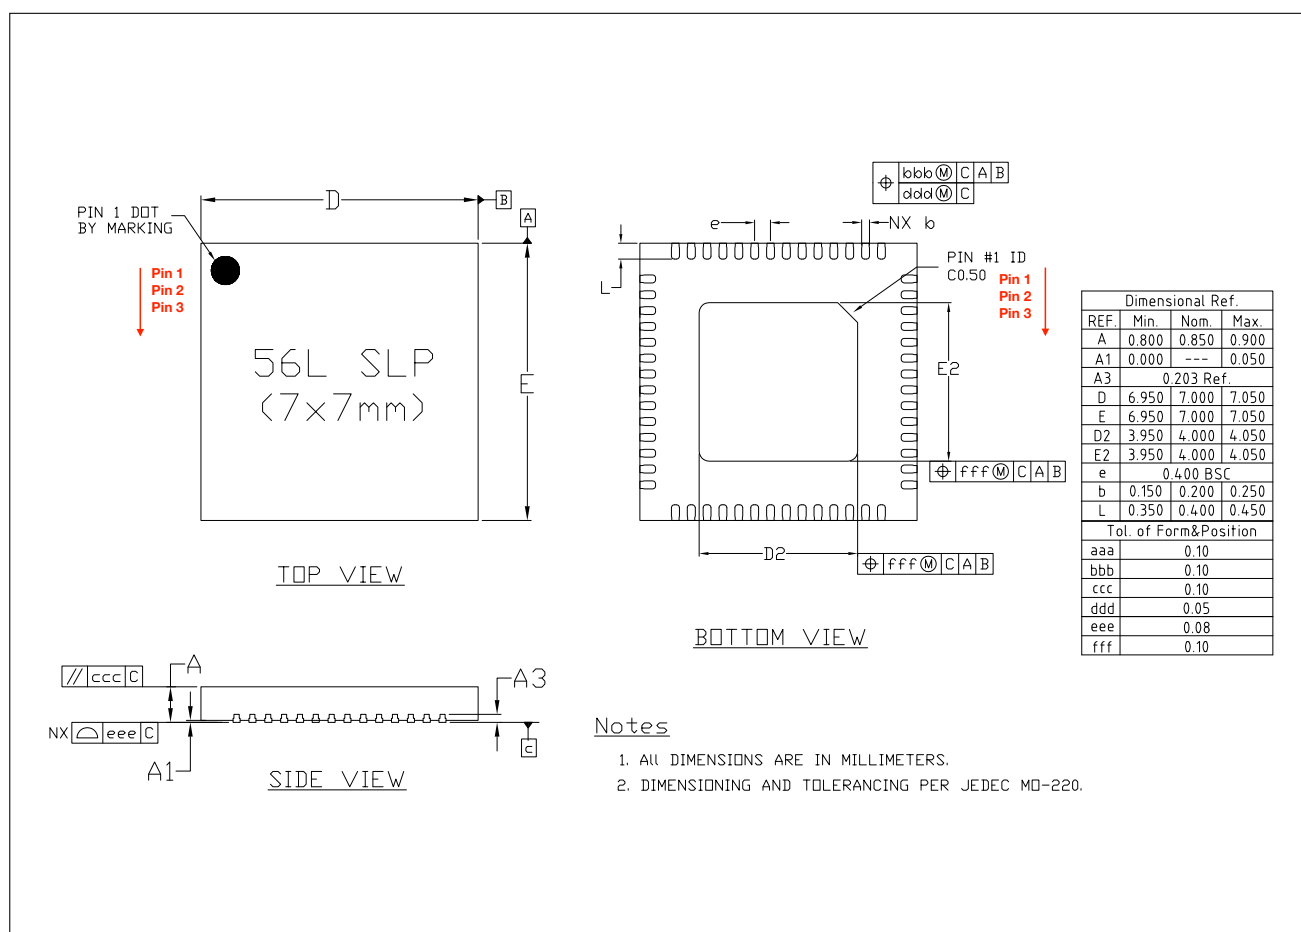
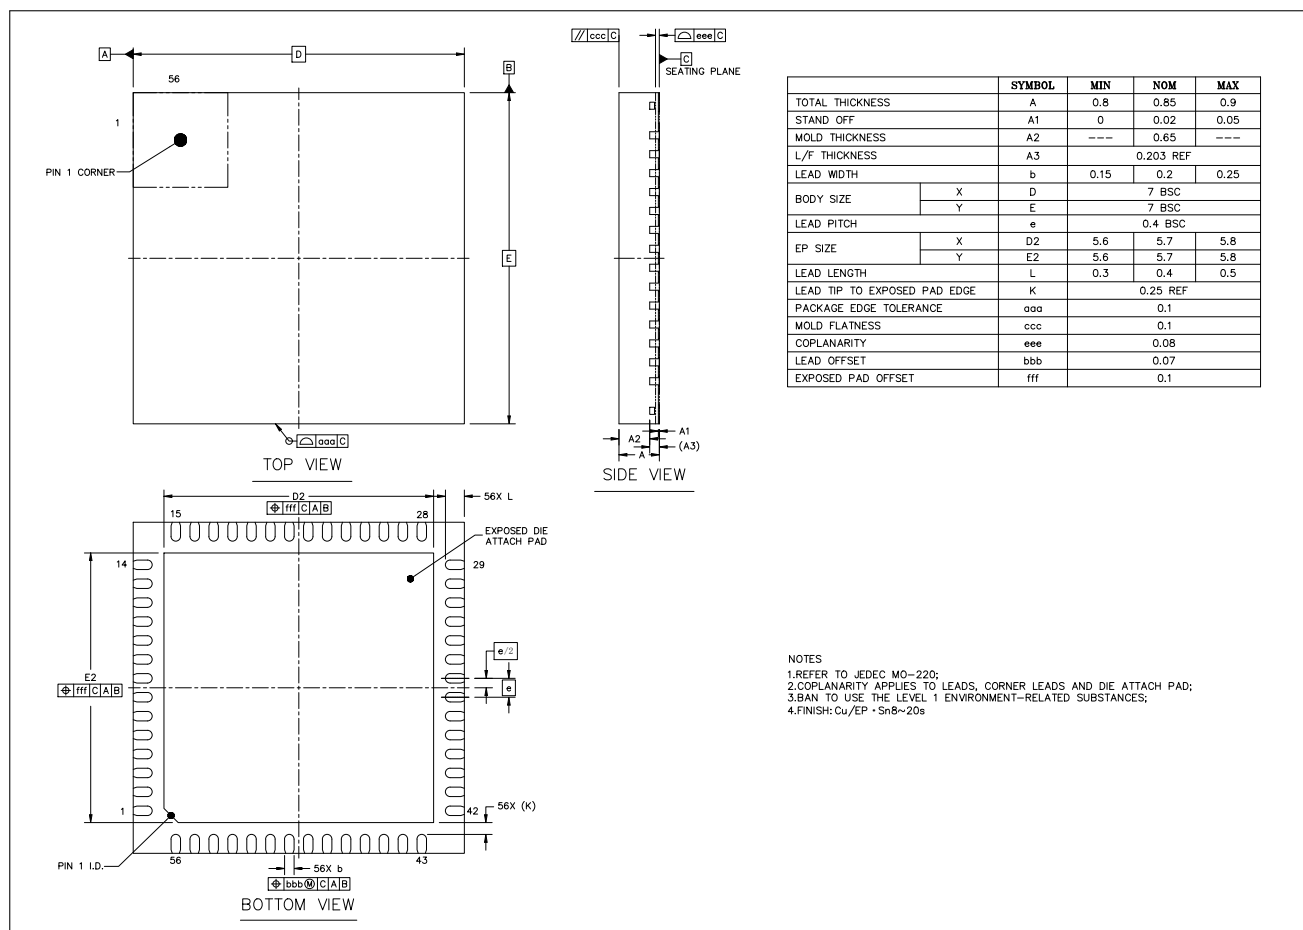

Figure 5-1. QFN56 (7×7 mm) Package
Figure 5-2. QFNWB (7x7 mm) Package for ESP32-S3FH4R2
- All ESP32-S3 chip variants have identical land pattern (see Figure 5-1) except ESP32-S3FH4R2 has a bigger EPAD (see Figure 5-2). The source file \(dxf\) may be adopted for ESP32-S3FH4R2 by altering the size of the EPAD (see dimensions D2 and E2 in Figure 5-2).